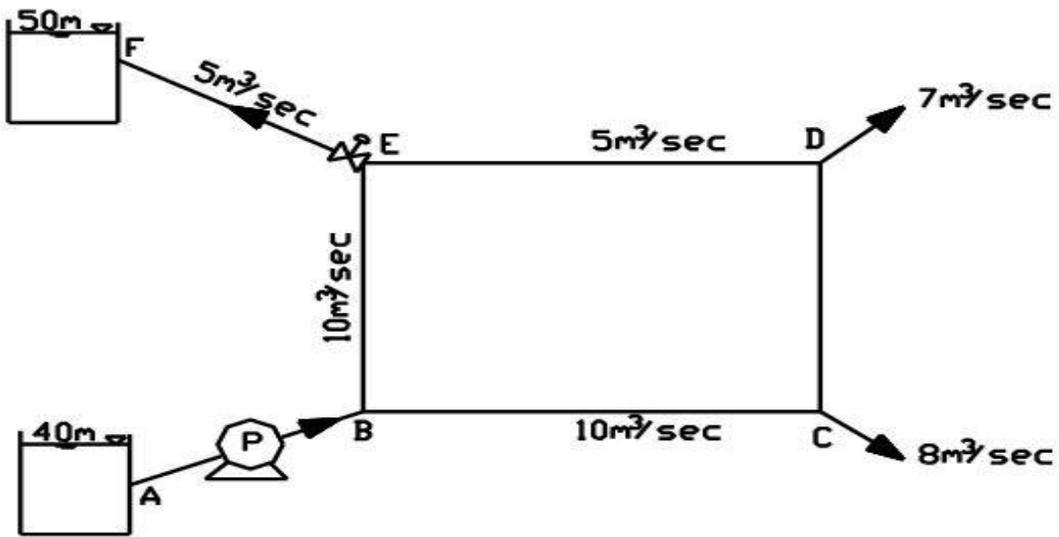

Fig.8
9. Given the network shown in Fig.8, representing a pump that delivers water from tank 'A' to the customers at 'C' and 'D' and to fill the tank 'F'. The flow into tank "F" is controlled by valve "V" at the beginning of branch EF, as shown in Fig.8, where 'r' of the valve equals 2. The total heads in tanks A and F are 40m, and 50 m., respectively, measured from the same datum. The diameters and lengths of the branches are as shown in table. The coefficient of friction 'f' for all branches is 0.003, and the resistance of branch 'AB' is neglected. The pump flow rate in branch 'AB' can be represented by the quadratic equation  $H = rQ^2$  where,  $r=1$  and H is the difference in head before and after the pump.